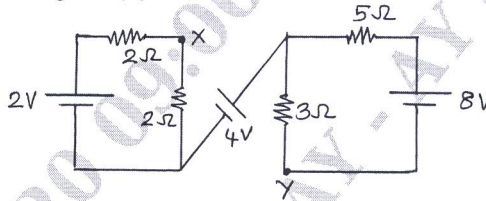

Fig.Q2(b)
- Apply Kirchoff's laws to find pontifical difference between X and Y for below shown electrical circuit diagram IN Fig.Q2(b). (07 Marks)